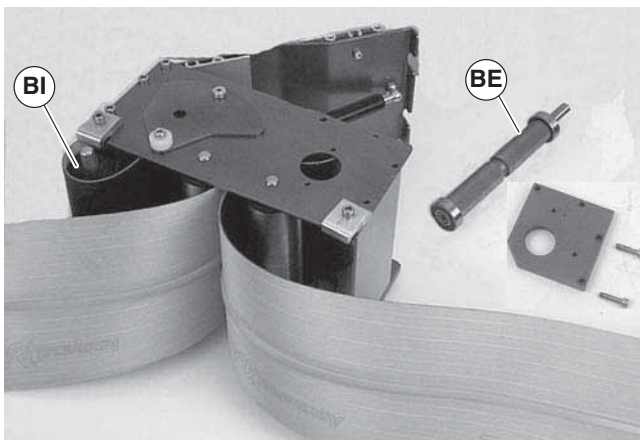

Figure 29
- For 5" (127 mm) or wider conveyor, depress both sides of spring-loaded shaft and remove pulley (Figure 29, item BI).